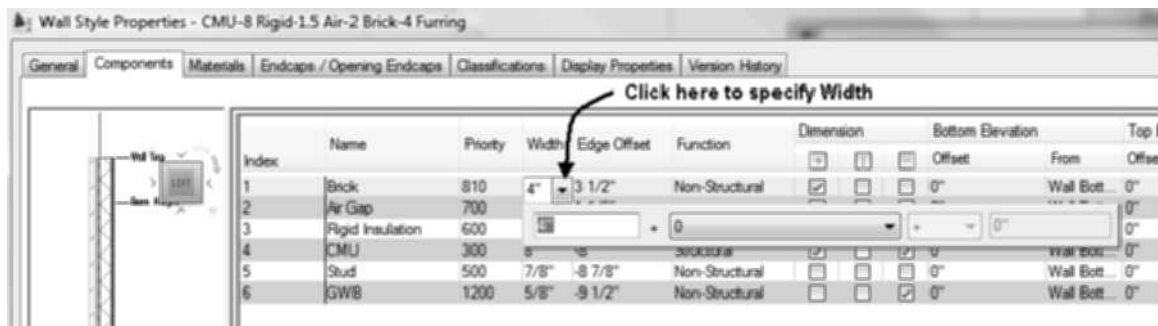

FIGURE 3.17 Setting wall width
27. Click in the Width column for the Brick component to display the drop-down list as shown in Figure 3.17. The width value of 4 creates a component 4 units wide in the positive or exterior direction as defined from the Edge Offset value.